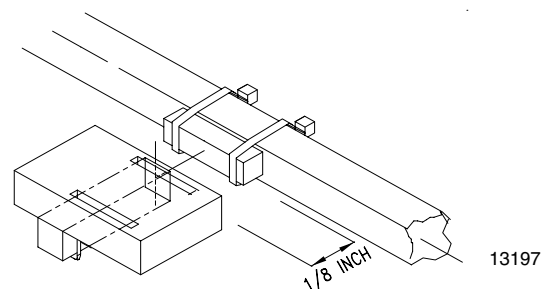

Figure 3
4. With switch mounted on bracket, use bracket to mark mounting holes on feeder-cup tray. When mounted, the sensor end of the switch should be aligned with center of magnet and there should be a 1/8-inch gap between switch and magnet. See Figure 3.